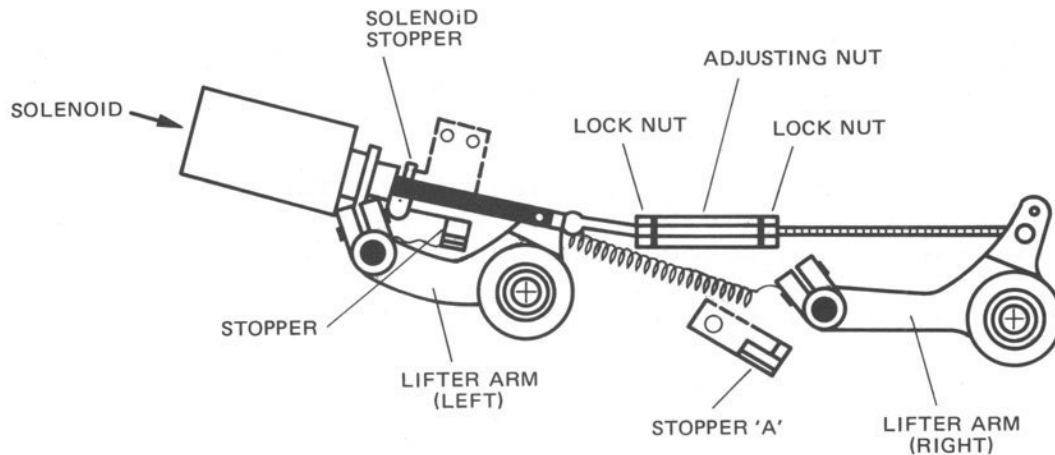

Figure 4-14 Tape Lifter Adjustments
- (5) Loosen the four screws which attach the Lifter Solenoid to the Deck Plate, and move the Lifter Solenoid as far toward the left side of the machine as it will go. Refer to Figure 4-14.
- (6) Push the right Tape Lifter toward the front of the machine, and adjust Stopper A so that the right Tape Lifter (between the Repro Head and the Flutter Filter Roller) moves the tape 0.5 mm (0.02 in) away from the Repro Head.